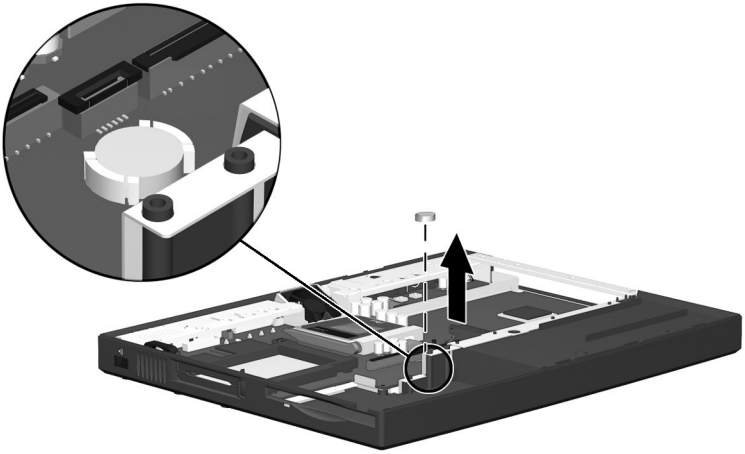

Figure 5-21: Removing the Disk Cell Battery
2. Lift the edge of the battery to disconnect it from its socket (Figure 5-21).